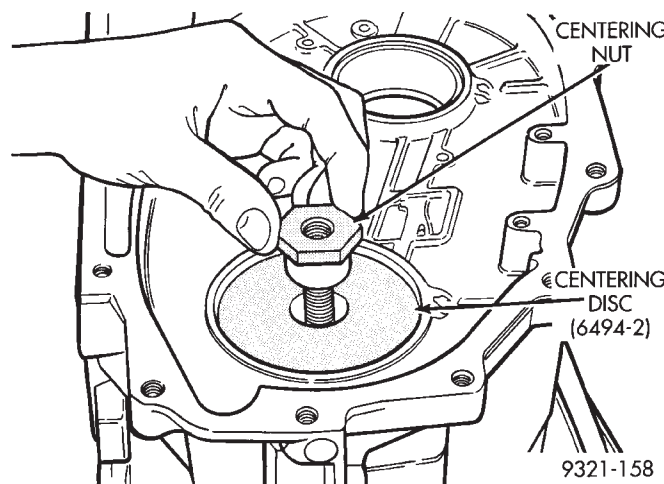

Fig. 305 Installing Centering Nut
(6) Install centering nut Tool 6549-5 as shown in (Fig. 305).
(7) Hand tighten centering nut until all play in the tool has been removed.
(8) Install dial indicator into locating block Tool 6549-1. Then screw extension rod onto dial indicator.